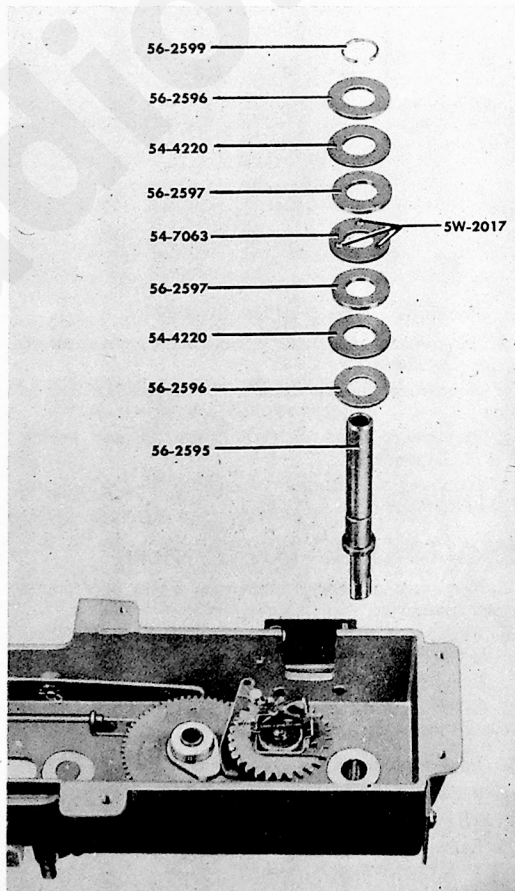

Figure 31—DISASSEMBLY OF TURNTABLE SHAFT AND BEARINGS.
- c. Remove spring ring 56-2599, steel washer 56-2596, neoprene washer 54-4220, ball race 56-2597, neoprene washer 54-7063, ball race 56-2597, neoprene washer 54-4220, and steel washer 56-2596, in order, as shown in figure 31.